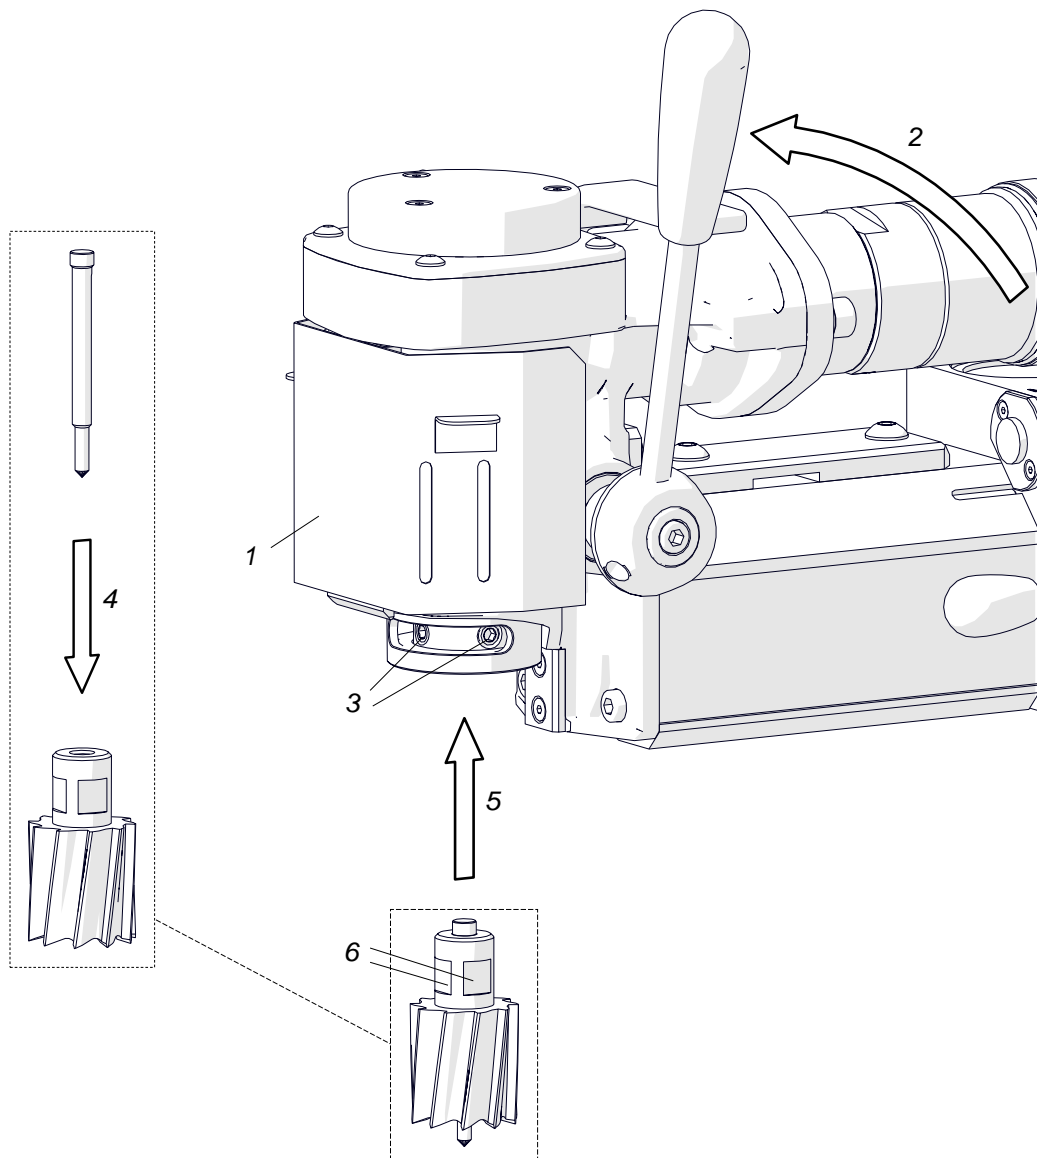

Fig. 2. Mounting the annular cutter
Unplug the machine from the supply, raise the chip guard (1, Fig. 2) as far as possible, and rotate the feed lever counterclockwise (2) to access the set screws 3. Next, insert the supplied pilot pin into the annular cutter (4), then wear protective gloves and place the cutter into the arbor (5) such that to align the flats 6 with the set screws 3. Finally, tighten both set screws with the 4 mm hex wrench. To remove the cutter, proceed in reverse order.